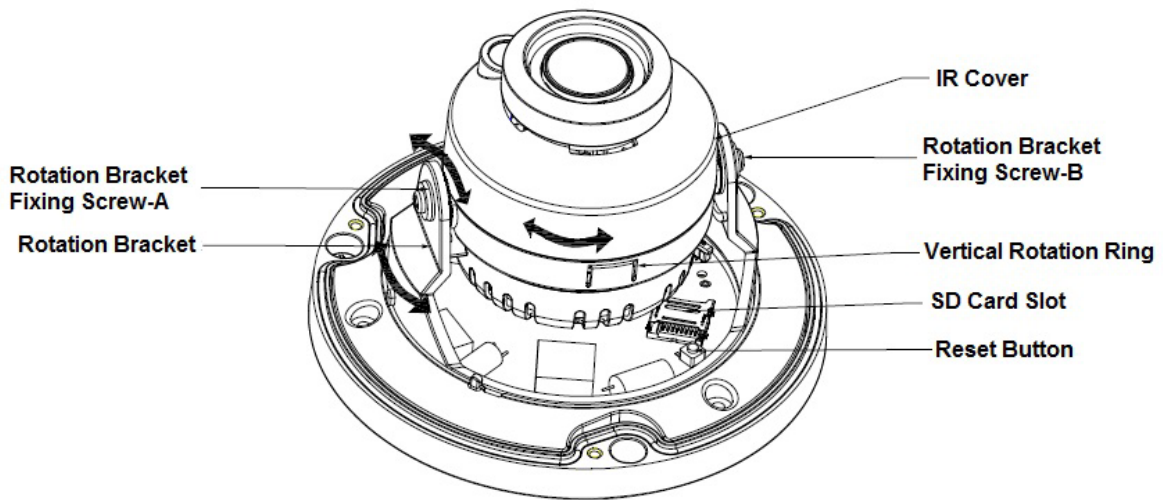

Figure 2-3
- Long press the “Reset” button shown in Figure 2-3 for 10 seconds when the device is power on if the device needs to be restored to factory setting.
- If the device needs to use WPS function, short press “Reset” button shown in Figure 2-3 for 1~2 seconds when the device is power on, press the WPS button of the router, generally the device can be connected to the corresponding router within 1 minute (only supported by some models).